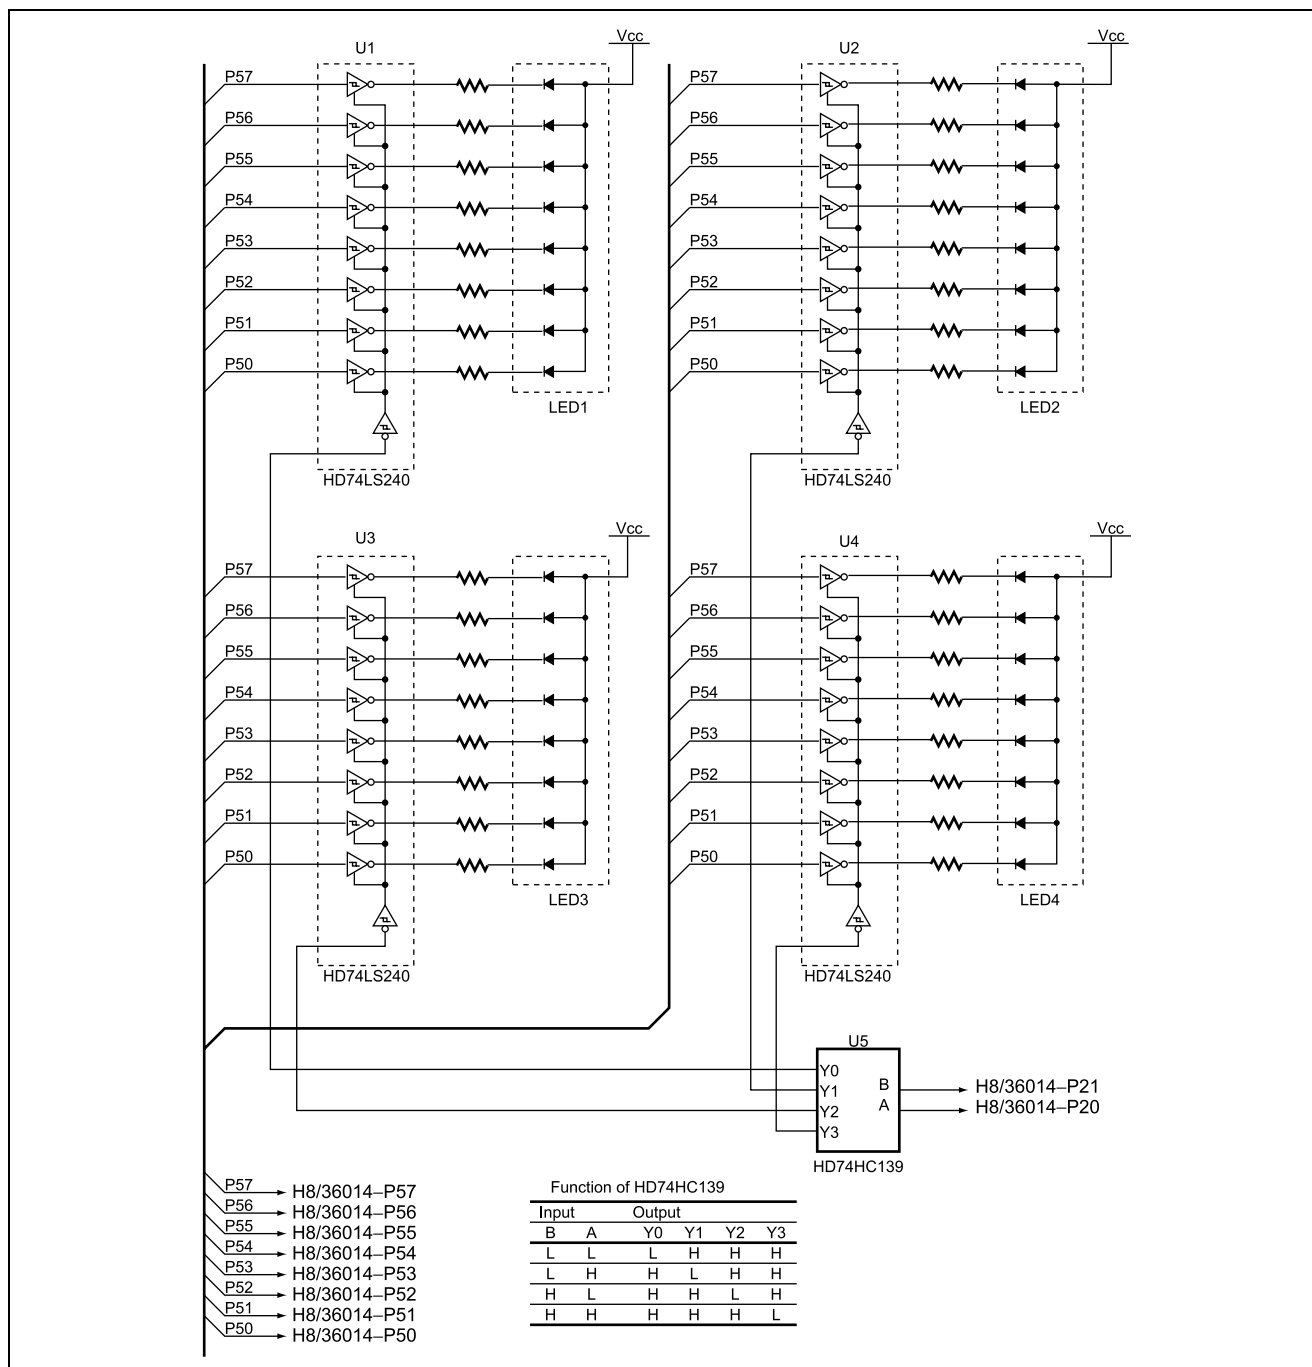

Figure 1.2 Method of Control of Seven-Segment LEDs
8. In this sample task, in order to display results on seven-segment LEDs, the port output is input to three-state output inverter drivers (HD74LS240), and the driver outputs are connected to the cathodes of the seven-segment LEDs. The port used for display on four seven-segment LEDs is connected to all of the seven-segment LEDs; switching of the display on the seven-segment LEDs is controlled by the enable pin of the three-state inverter drivers. A 2-to-4-line decoder (HD74HC139) is used to generate signals for switching the seven-segment LED display, and is controlled by two port outputs. Figure 1.2 shows the method of control of the seven-segment LEDs.